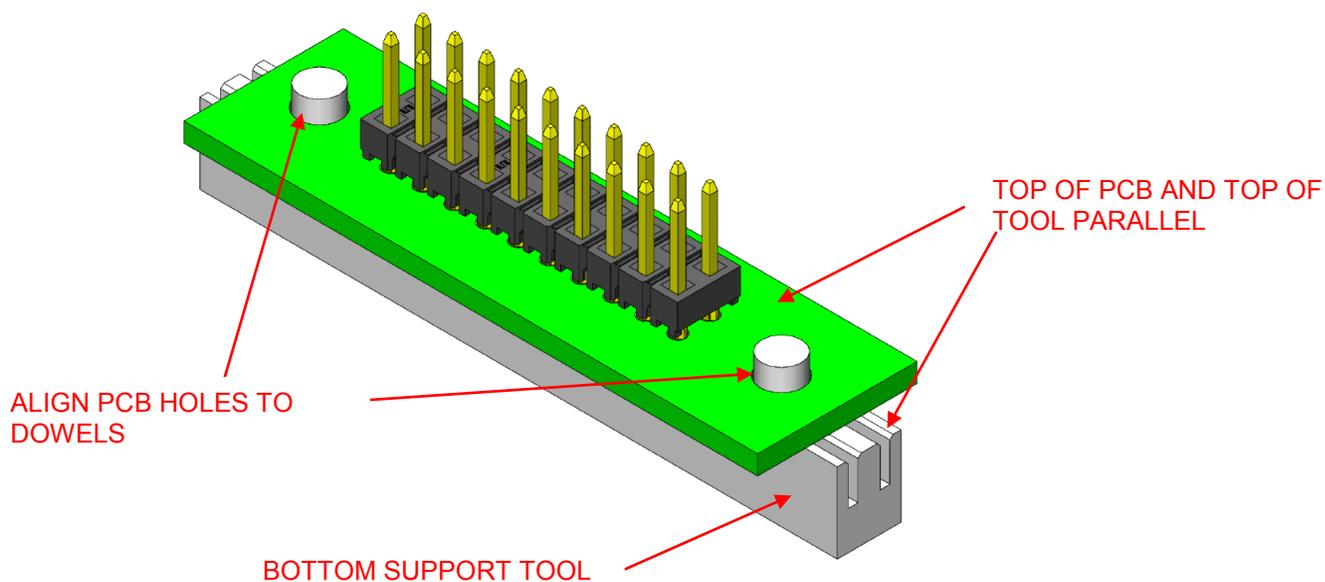

Figure 2: Align & Seat PCB to Bottom Support Tool
- Using a **bottom** support tool (CAT-PT-PH-1XX-X-B), align PCB holes to the dowels of the bottom support tool as shown in figure 2.